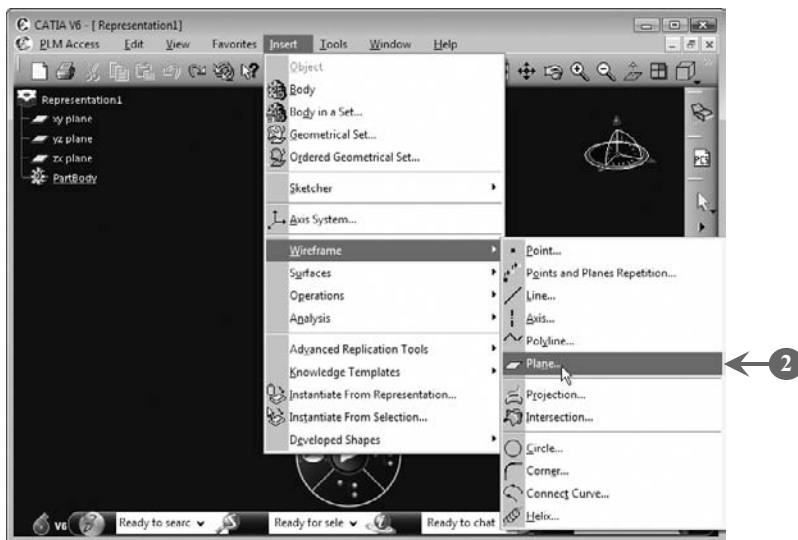

FIGURE 5.14
2. *Select* **Insert > Wireframe > Plane** from the menu bar to create a plane, as shown in **Figure 5.14**: